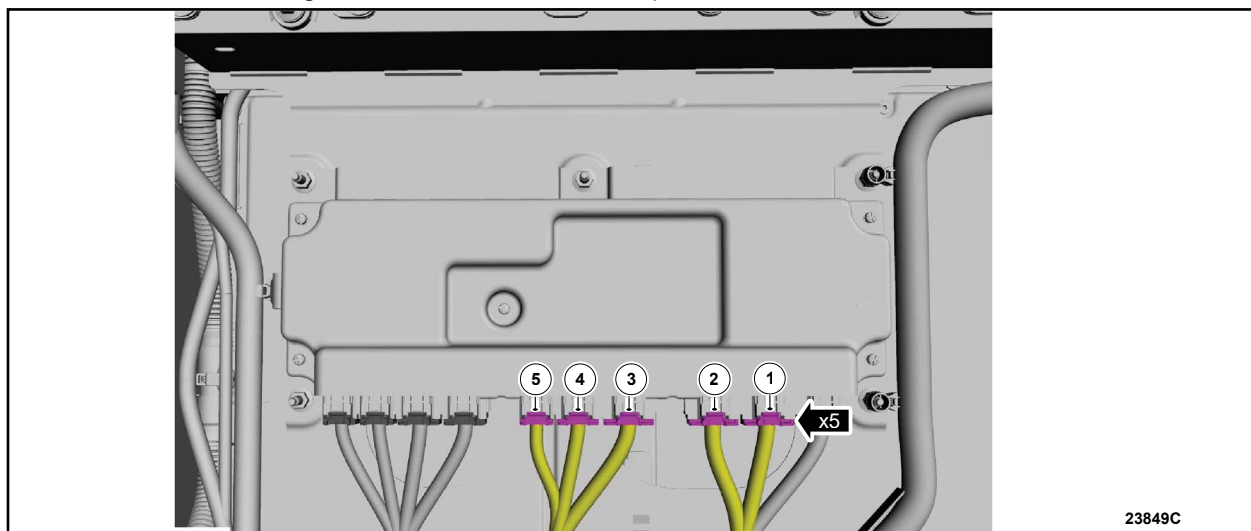

FIGURE 3
4. Disconnect the BECM electrical connectors in the sequence shown. See Figure 3.